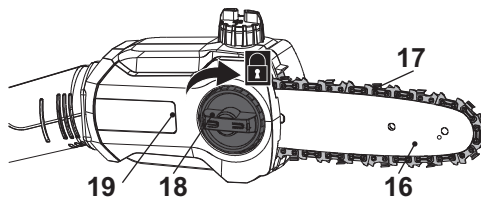

Fig. 9
- Refit the chain saw cover (19) and slightly tighten the locking wheel (18) clockwise (Fig. 9). Do not tighten the locking wheel (18) completely as saw chain tensioning is required first.